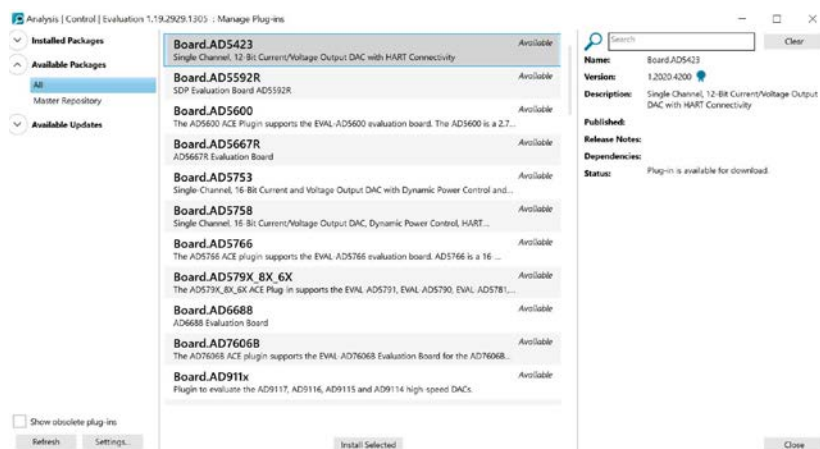

Figure 11. Installing AD4696 ACE Plugin
3. Select the **Available Packages** drop down menu on the left and search for AD4696 using the search text box on the right, as shown in Figure 11 (the AD4696 plugin is not shown as an option in Figure 11 because that plugin is not released yet).